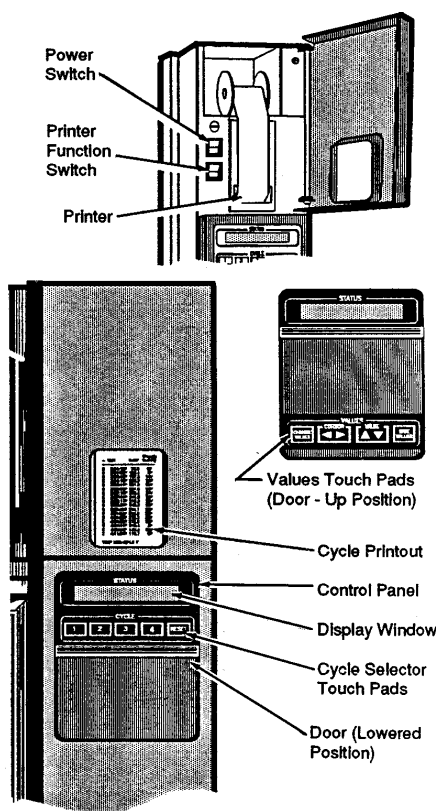

Figure 3-2. Turn Power On
3.5 Change Prevacuum Sterilizer Cycles, Cycle Values And Control Values (See Figure 3-2)